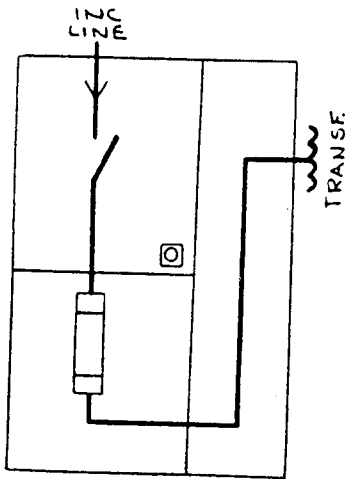

FIG. 3
- Load center incoming line equipments (LVP) - (Fig. 3, 4, 5)
3. LVP Two-Position Air-Interrupter Switch Fig. 3